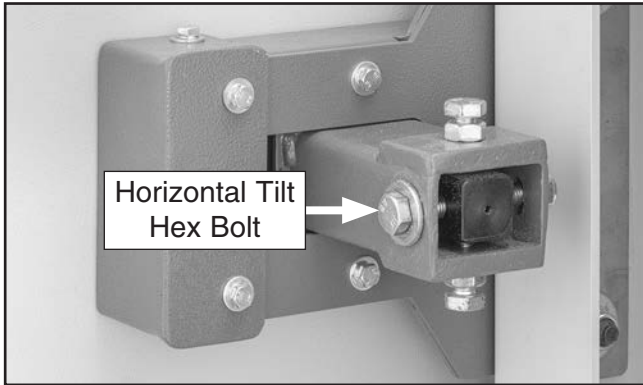

Figure 80. Location of horizontal tilt hex bolt.
6. Adjust horizontal tilt hex bolt (see **Figure 80**) so that blade tracks evenly.